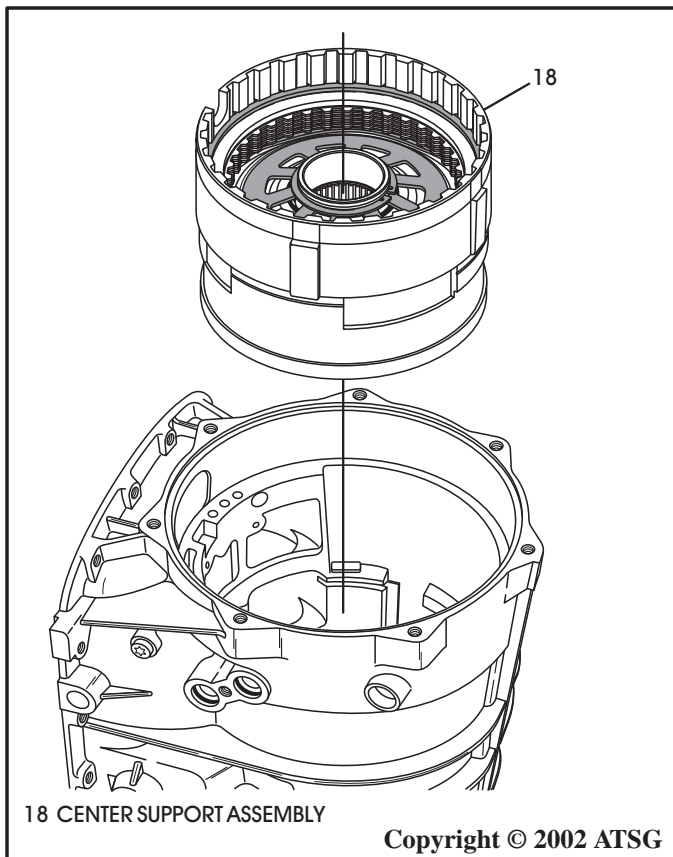

Figure 176
3. Install pre-assembled center support assembly as shown in Figure 176, and rotate the output shaft back and forth to engage the 2nd clutch plates and the 2nd coast clutch plates.